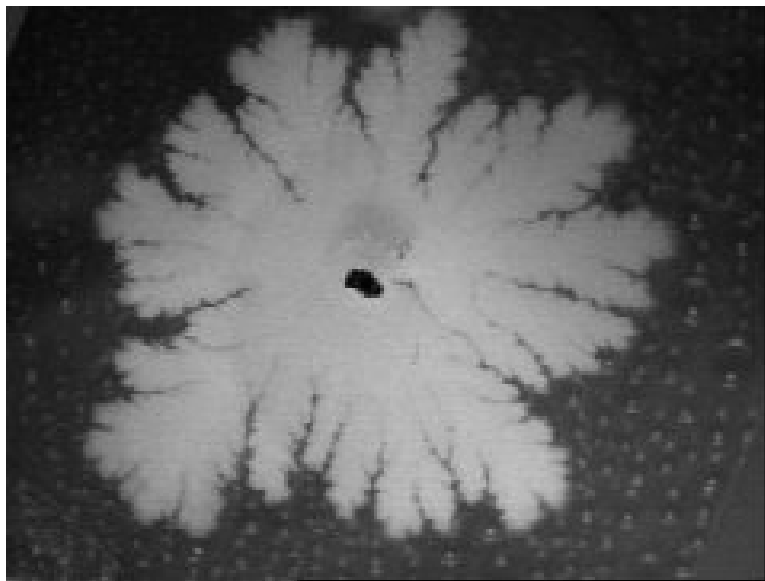

Figure 5.8: Sample E. Coli bacterial colonies grown under starvation conditions.
1. Record a digital image of the colony with a digital camera or scanner. It may look something like Figure 5.8.